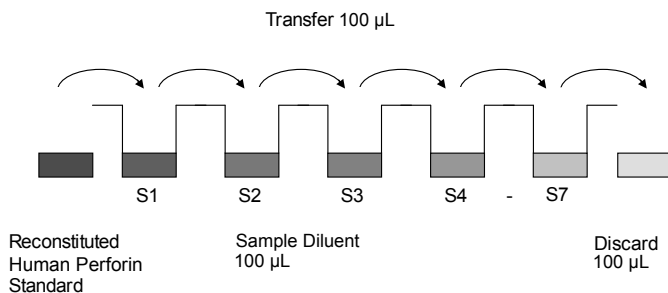

Fig. 7 Dilute standards - microwell plate.
Add 100 μL of Sample Diluent in duplicate to all standard wells. Pipet 100 μL of reconstituted standard (see "Human Perforin standard" on page 3, concentration = 3.6 ng/mL), in duplicate, into well A1 and A2 (see Table 1). Mix the contents of wells A1 and A2 by repeated aspiration and ejection (concentration of standard 1, S1 = 1800 pg/mL), and transfer 100 μL to wells B1 and B2, respectively (see Figure 7). Take care not to scratch the inner surface of the microwells. Continue this procedure 5 times, creating two rows of human Perforin standard dilutions, ranging from 1800 to 28.1 pg/mL. Discard 100 μL of the contents from the last microwells (S7) used.
- A representative standard curve is shown in Figure 7.